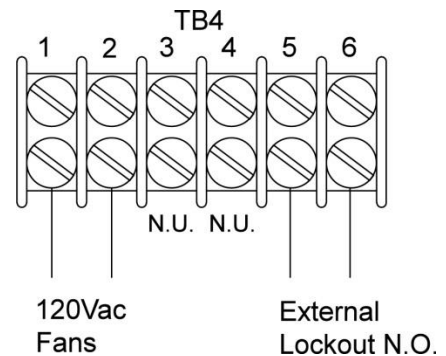

Figure 5
1. Fans are used on 225A units and larger. 120Vac must be supplied to terminals 1 and 2 of TB4 terminal block, located on metal plate on fan units. See figure 5.